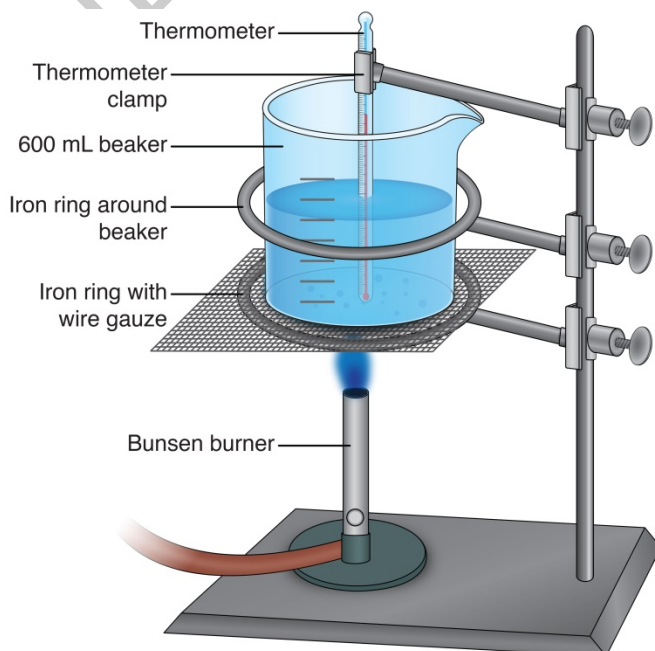

Figure 1. Apparatus for heating volatile liquid sample
7. Assemble the ring stand with support rings and clamps, wire gauze pad, 600-mL beaker, thermometer, and Bunsen burner or hot plate, as illustrated in Figure 1. Start heating the water in the beaker while completing steps 8–12. Remove from heat if it starts to boil before you reach step 13.